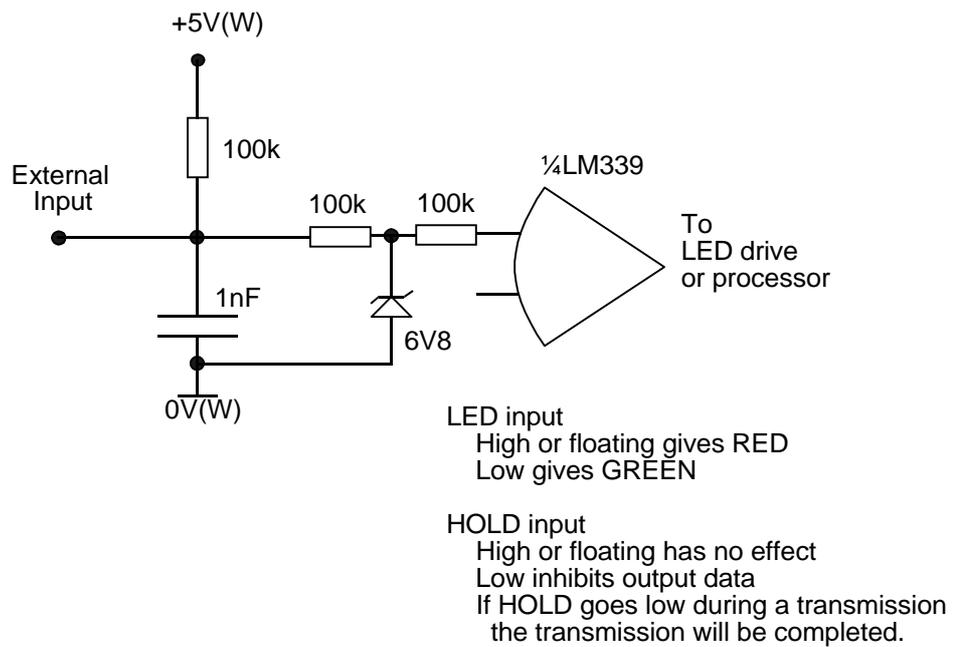

Fig 2: Interfaces
5.5.2 Outputs (see Figure 2 for interface circuits)